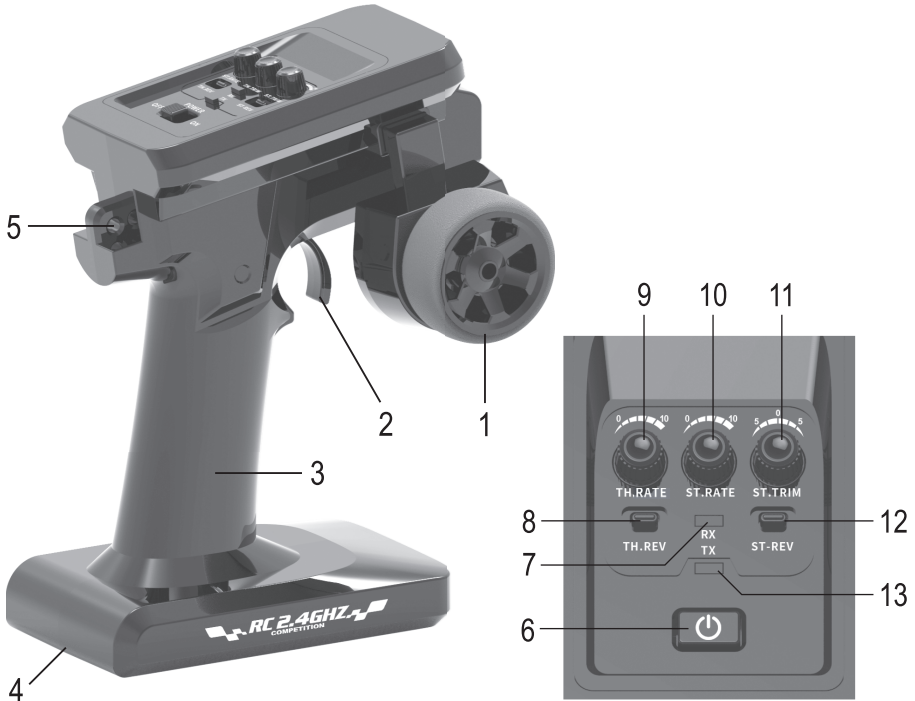

Figure 1
- Press the on/off button (see fig. 1, pos. 6); the "RX" LED lights up red permanently, and the "TX" LED flashes green. You can then switch on the vehicle. When the transmitter connects to the receiver in the vehicle, the "TX" LED lights up green permanently. The vehicle now responds to the transmitter's control signals. If the "RX" LED flashes red, the batteries/rechargeable batteries in the transmitter are empty and must be replaced.
- Then switch off the transmitter by pressing the on/off button (see fig. 1, pos. 6). The LEDs on the transmitter go off.
The steering wheel controls the steering servo (fig. 1, pos. 1). Turning the steering wheel to the left (counter-clockwise) causes the vehicle to move to the left depending on the rotation angle; turning it to the right (clockwise) causes it to move to the right.
- "ST.TRIM" knob (fig. 1, pos. 11): set the steering servo to the middle/neutral position (or straight-ahead vehicle travel), as described in section 12.5
- "ST.RATE" knob (fig. 1, pos. 10): steering servo maximum deflection limitation, see section 12.6
- "ST.REV" reverse switch (fig. 1, pos. 12): steering function reversal, see section 12.7
The throttle lever (fig. 1, pos. 2) controls the speed controller. Pulling the throttle lever toward the handle causes the vehicle to drive forwards (speed depends on the lever position). Pushing the throttle lever away from the handle causes the vehicle to move backwards.
- “TH.RATE” knob (fig. 1, pos. 9): driving speed limitation, see section 12.8
- “TH.REV” reverse switch (fig. 1, pos. 8): drive function reversal, see section 12.9
If the vehicle tends to pull to the left or right while driving, even though the steering wheel is in the middle (neutral) position, set the steering trim accordingly with the “ST.TRIM” knob on the transmitter (see fig. 1, pos. 11).
The “ST.RATE” knob (fig. 1, no. 10) allows limiting the maximum steering angle, thus improving the vehicle steering performance during fast driving, as it responds more sensitively.
Use the “ST” slide switch (fig. 1, pos. 12) to reverse the steering servo movement direction (e.g. when holding the transmitter with your right hand and steering with your left hand).
Use the “TH.RATE” knob (fig. 1, pos. 9) to set the maximum driving speed. A low maximum speed (turn the knob counter-clockwise to the left) is ideal for beginners to familiarise themselves with the vehicle.
Normally, pulling the throttle lever towards the handle on the transmitter causes the vehicle to move forward. Otherwise, use the “TH.REV” slide switch (fig. 1, pos. 8) to reverse the movement direction of the drive.
- Put the "TH.RATE" (fig. 1, pos. 9) and "ST.TRIM" (fig. 1, pos. 11) knobs into the middle setting.
- Turn the "ST.RATE" knob (fig. 1, pos. 10) clockwise as far as it will go.